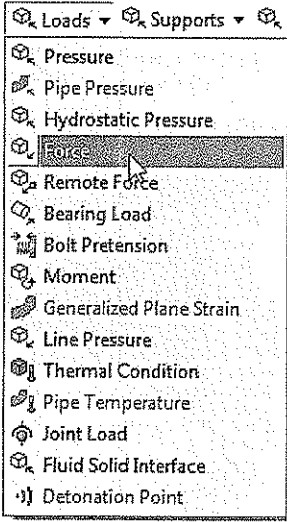

Figure 9-13 The Loads drop-down
- 7. In this toolbar, choose the **Loads** button to display a drop-down, as shown in Figure 9-13.